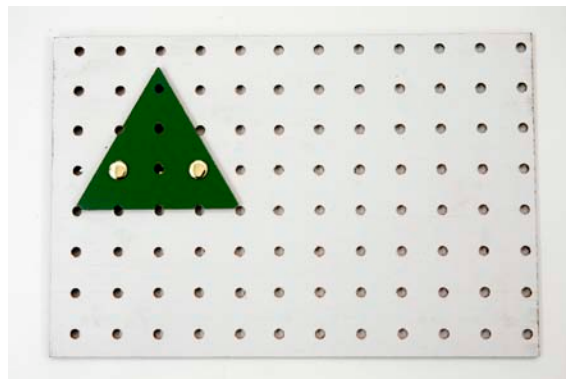

Figure 3: Adding a fastener turns a mechanism into a structure
- ✂ If a piece is attached to the base by two or more fixed fasteners, it will not be able to move separately, and therefore be part of a **structure** with the base, as in Figure 3.